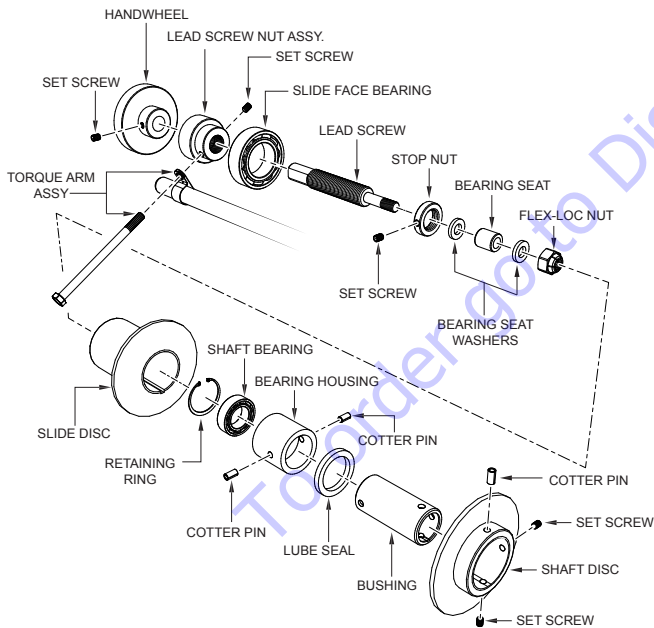

Figure 33. Drive Pulley Components
- Remove the handwheel (Figure 33) from the leadscrew. Screw in the leadscrew until the front disc comes off the shaft.
- The bearing housing (Figure 33) will push the lube seal out of the front disc.
- Remove the shaft bearing (Figure 33) by removing the retaining ring and pushing against the inside end of the leadscrew in an arbor press.